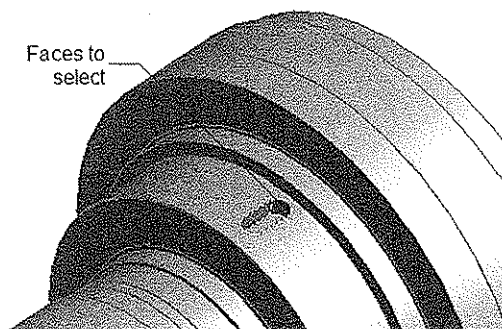

Figure 7-77 Faces selected for the fill feature
33. Select the five faces of the slot, as shown in Figure 7-77.